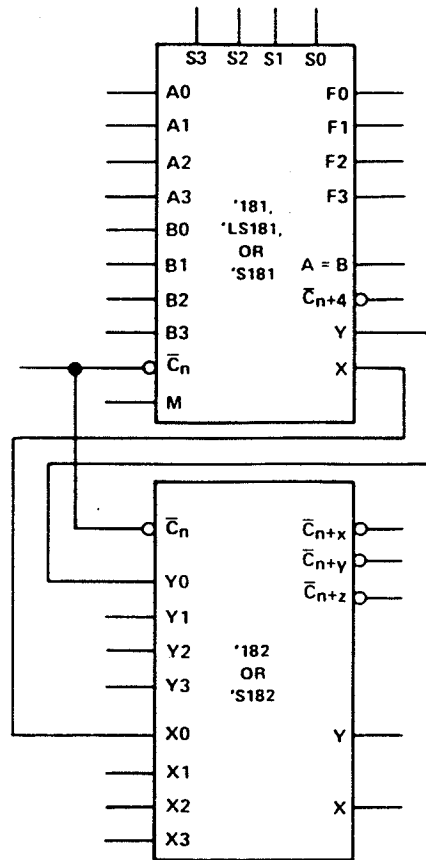

FIGURE 2
The '181, 'LS181, and 'S181 together with the '182 and 'S182 can be used with the signal designations of either Figure 1 or Figure 2. The inversion indicators (O) and the bars over the terminal letter symbols (e.g., \bar{C}) each indicate that the associated input or output is active with respect to the selected function of the device when that input or output is low. That is, a low at \bar{C} means "do carry" while a high means "do not carry".
The logic functions and arithmetic operations obtained with signal designations of Figure 1 are given in Table 1; those obtained with signal designations of Figure 2 are given in Table 2.